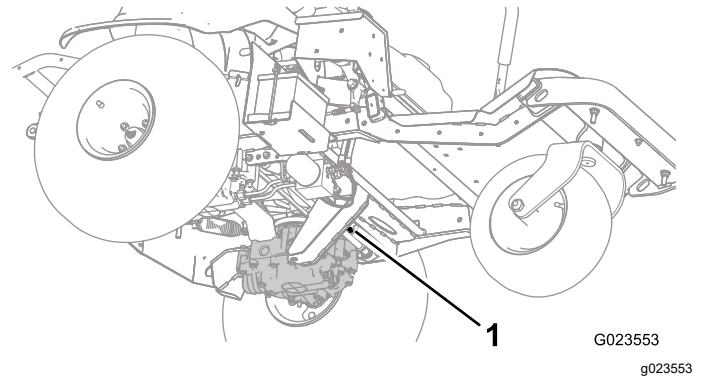
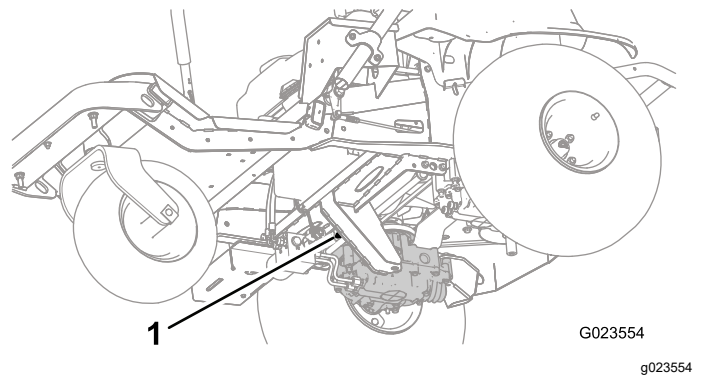
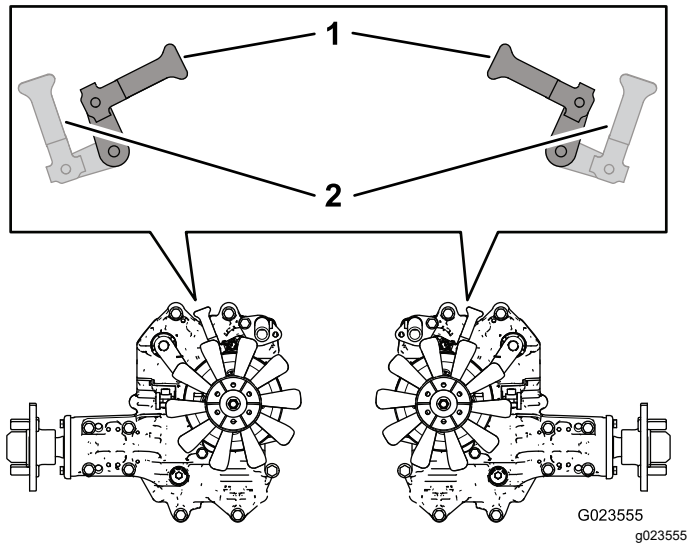

Figure 22
Figure 23
Figure 24
2. From underneath the machine, rotate the bypass-valve levers (Figure 22 and Figure 23) so that they point inward, toward the center of the machine (Figure 24), and disengage the parking brake; refer to Using the Parking Brake (page 19).
3. When you are finished pushing or towing the machine, rotate the bypass-valve levers so that they point toward the front of the machine, to allow the machine to drive (Figure 24).